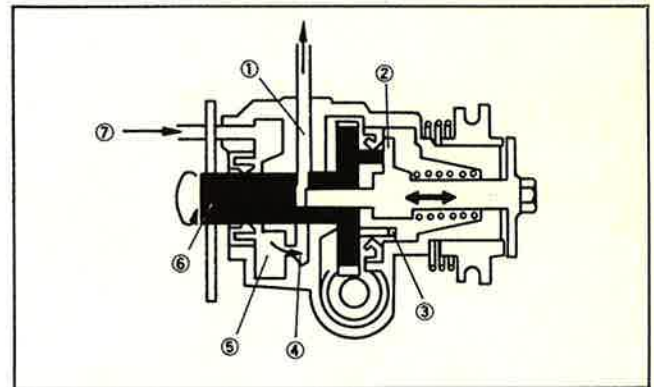

Fig. 3-3-21
4. With rings installed in grooves, insert feeler gauge between ring side and groove. If beyond tolerance, replace ring and/or piston as required. (Fig. 3-3-21)